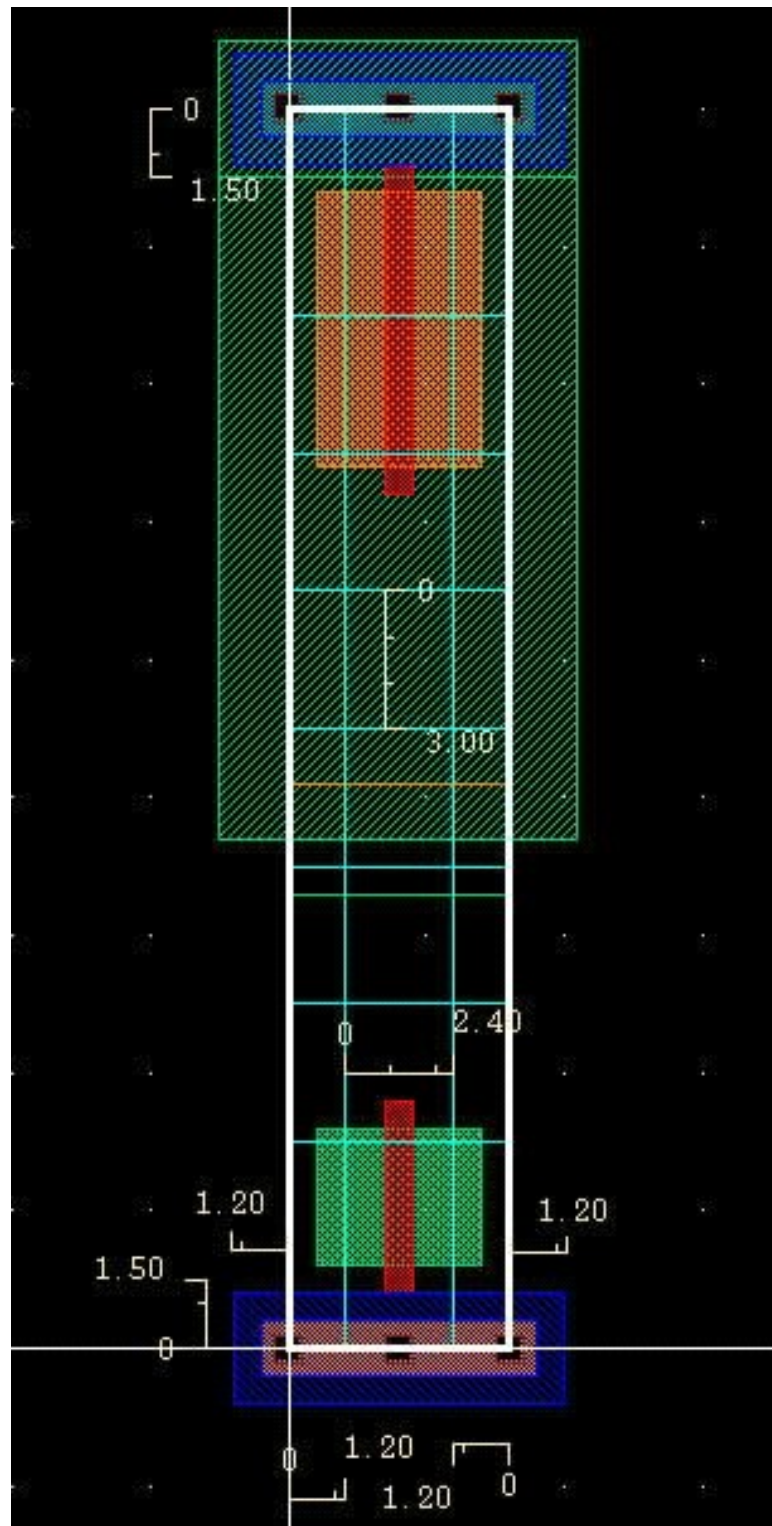

Figure 5.39: A **layout** template showing cell boundary (**prBound** layer)
The notion of a *cell boundary* was used without specific definition in the preceding text. The cell boundary is the rectangle that defines the outline of the cell from the place and route tool's point of view. We have defined our library so that the cell boundary is actually inside of the cell layout geometry so that when the cells are abutted with respect to the cell boundary, they actually overlap by a small amount. The cell boundary is shown in Figure 5.39, but you don't have to draw it by hand. It will be derived during the process of extracting an **abstract** view as described in Chapter 9.
*In order to make sure that there will not be any DRC violations when cells are abutted, it is very important that no geometry on any layers (other than the layers already in the template) falls within 0.6 microns from the left and right of the cell boundary or within the **vdd!** or **gnd!** buses.* This rule is in addition to other SCMOS Design Rules within the cell and applies even if the DRC of the individual standard cell does not complain. For example, in the layout shown in Figure 5.39, the **nactive** and **pactive** layers are placed 0.6μ away from the cell boundaries on left and right side. They cannot come any closer to the boundary. Also, in the **layout** view shown, the **pmos** and **nmos** transistor gates (**poly** layer) are placed just touching the **vdd!** and **gnd!** bus inner edges. The gates could go farther away from the bus inner edges but cannot extend into the bus structure. If you need more space than these rules allow, you will have to make your whole cell wider. Each time you make a cell wider, it has to be made wider in increments of 2.4μ .
It turns out to make the job of the place and route tool much easier if the connection points to the cell are centered on horizontal and vertical routing pitch dimensions. The grid lines in Figure 5.39 (actually 0-width rectangles of type **wire** in the layout) show the horizontal and vertical routing channels in the cell. We follow offset grid line placement rules where the grid lines are offset by half of the vertical and horizontal grid line pitch from the origin. Thus the vertical grid lines start at 1.2μ from the y-axis and are spaced 2.4μ thereafter. Similarly, the horizontal grid lines start at 1.5μ from the x-axis and are spaced 3.0μ thereafter. However it should be noted that the first and last horizontal grid lines cannot be used, as any geometry placed on them extends into the **vdd!** or **gnd!** bus violating the rules defined above.